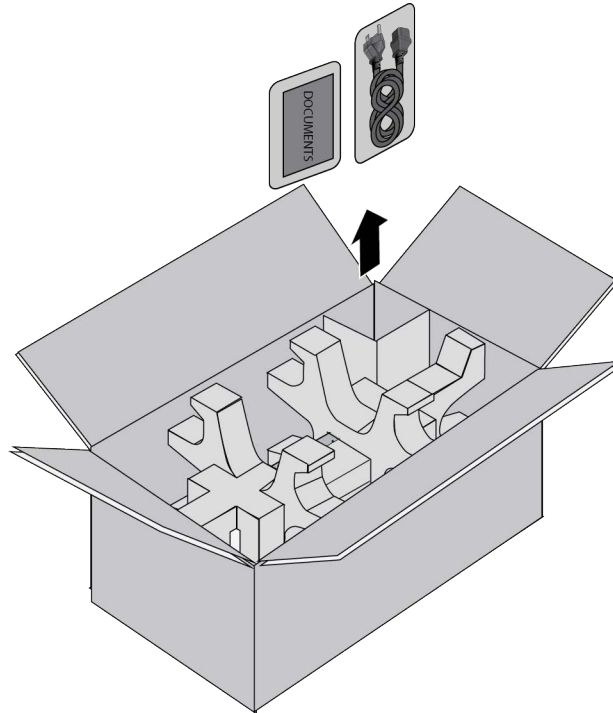

Figure 55. Removing the Power Cord and Documents from the PWR600 AC Power Supply
1. Remove the power cord and any documents from the accessory partition. Refer to Figure 55.